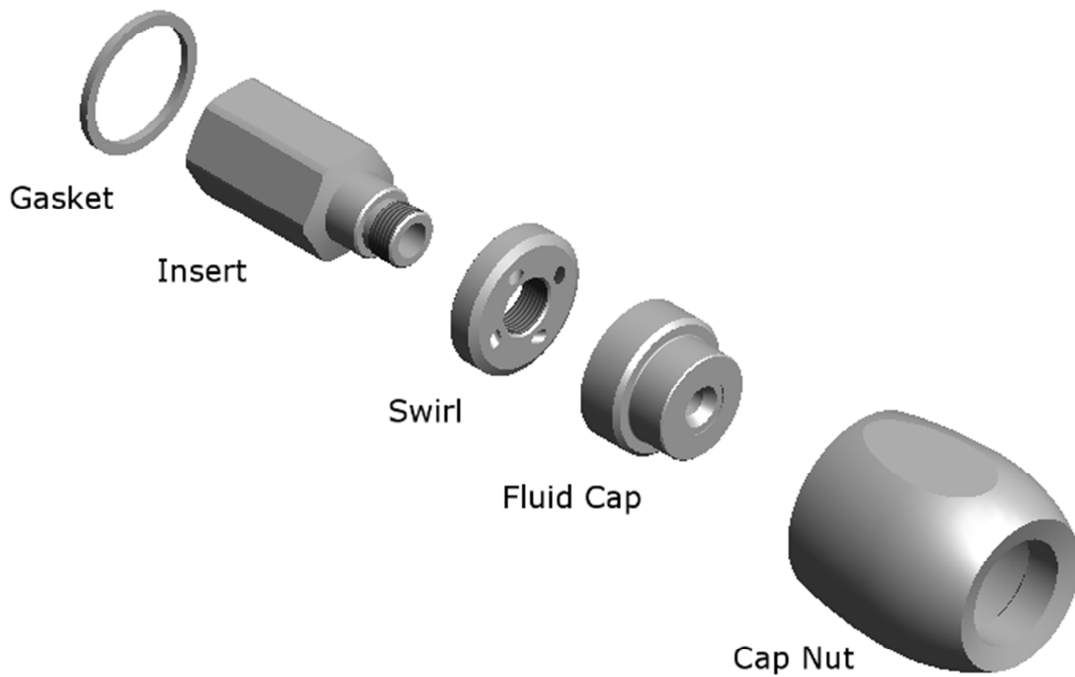

Figure 2: Exploded View $\frac{3}{4}$ " and 1" Nozzle Assembly
- Figure 2: Exploded View ¾" and 1" Nozzle Assembly 6
- Fluid Cap: The fluid cap provides the injection spray into the system. (See Figure 2 & 3)
- Swirl: The swirl imparts a tangential velocity on the full flow from the pump into the fluid cap. (See Figure 2)
- Insert: The insert is an adapter with a fixed orifice to connect the inner pipe to the swirl. (See Figure 2)
- Gasket: The gasket creates a seal between the outer lance pipe and swirl. (See Figure 2 & 3)